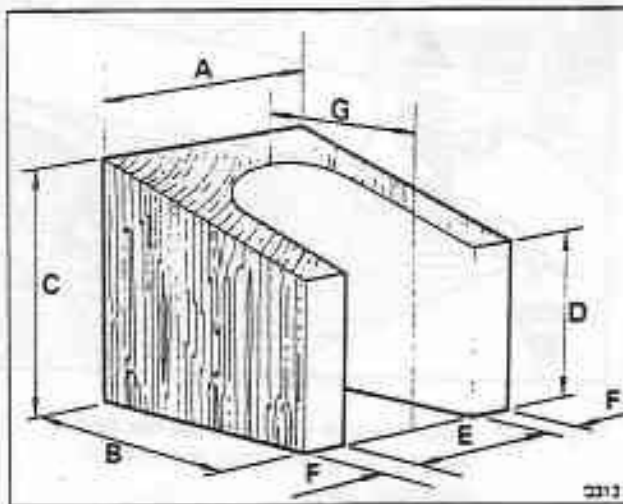

Fig. H2-10 Wooden support block
38. Remove the front road springs as described in Section H3. Fit the wooden support blocks (see fig. H2-10) between the bump stop and the lower triangle levers. Lower the car onto its wheels, ensuring the wooden blocks remain in position.